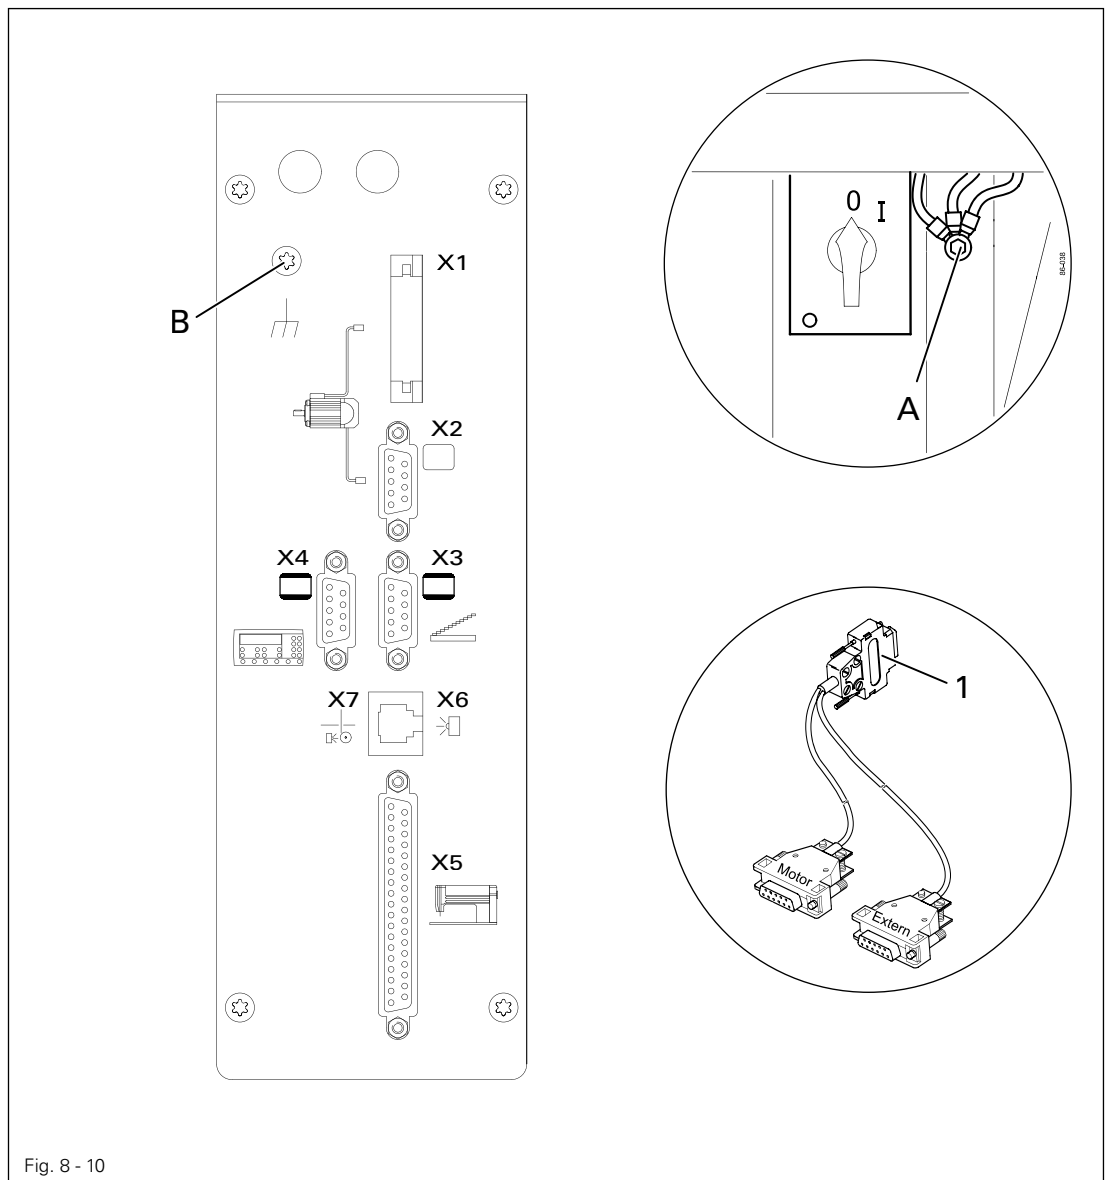

Fig. 8 - 10
- Attach bearing plate 1 to motor 2 with screws 3 as shown in Fig. 8 - 03.
- Fit the reel stand as shown in Fig. 8 - 09.